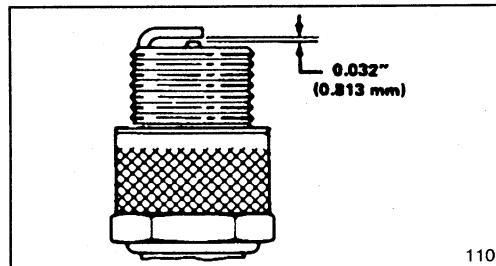

Figure 13
3. Set air gap at 0.032" (0.813 mm) (Fig. 13). Install correctly gapped spark plug and gasket seal. Tighten plug firmly to 15 ft-lb (20.4 N·m).